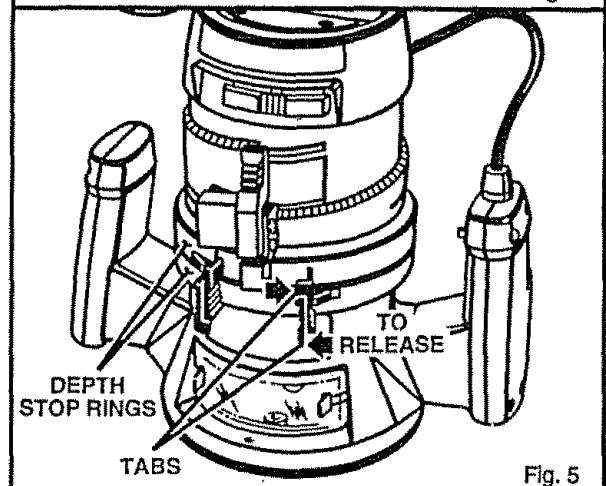

Fig. 5
See Figures 5 and 6
1. Release depth stop rings. To release: grasp depth stop ring tabs with your thumb and index finger, then twist them apart as shown by the arrows in figure 5.